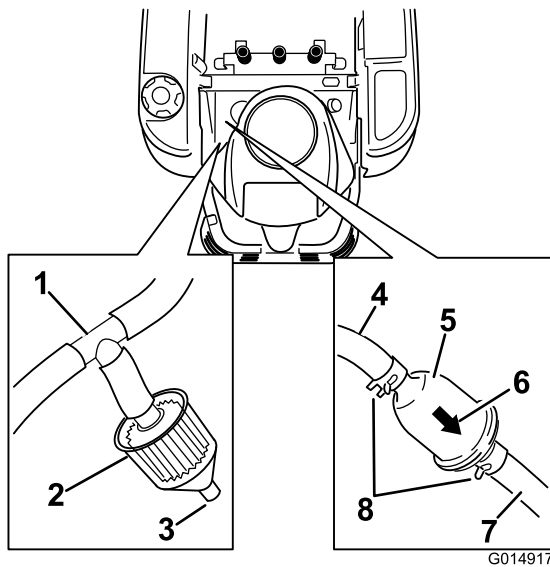

Figure 37
3. Raise the seat and locate the fuel filters as shown in Figure 37.
4. Squeeze the ends of the hose clamps together and slide them away from the filter (Figure 37).
6. Install a new filter with the flow direction arrow coming from the fuel tank and pointing to the engine. Move the hose clamps close to the filter (Figure 37) to secure it in place.
The machine is equipped with a emissions filter (Figure 37) connected to a tee fitting on the vent line coming from the gas tank. The filter has an open port by design. The filter should be inspected regularly. Replace the filter if the filter is dirty or clogged.